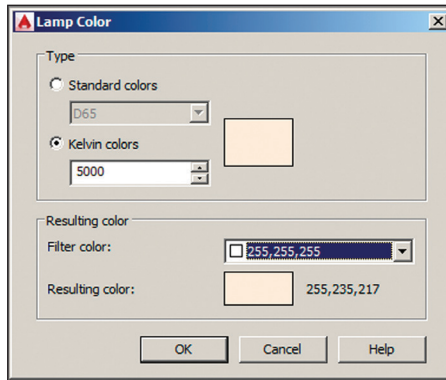

FIGURE 18.11 Specifying lamp color by temperature
- Right-click the selected lights in the Light Lister and choose Properties. Select the Lamp Color property and click the icon to the right of the drop-down menu to open the Lamp Color dialog box. Select the Kelvin Colors radio button, type 5000, and press Tab. The resulting color changes (see Figure 18.11). Click OK.